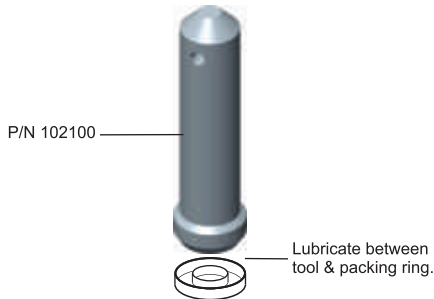

Figure 5
4. Using P/N 102100 tool insert each packing ring seal one at a time. The Lubriplate on the packing ring seal will aid in attaching to tool. (See figure 5)